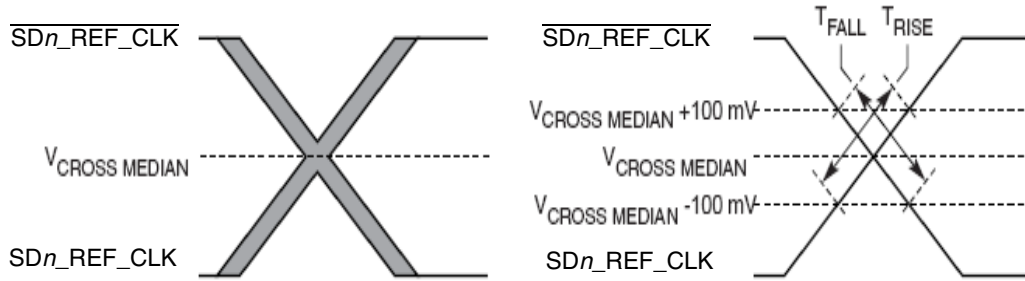

Figure 48. Single-Ended Measurement Points for Rise and Fall Time Matching
4. Matching applies to rising edge rate for SDn_REF_CLK and falling edge rate for $\overline{SDn_REF_CLK}$. It is measured using a 200 mV window centered on the median cross point where SDn_REF_CLK rising meets $\overline{SDn_REF_CLK}$ falling. The median cross point is used to calculate the voltage thresholds the oscilloscope is to use for the edge rate calculations. The Rise Edge Rate of SDn_REF_CLK should be compared to the Fall Edge Rate of $\overline{SDn_REF_CLK}$, the maximum allowed difference should not exceed 20% of the slowest edge rate. See Figure 48.